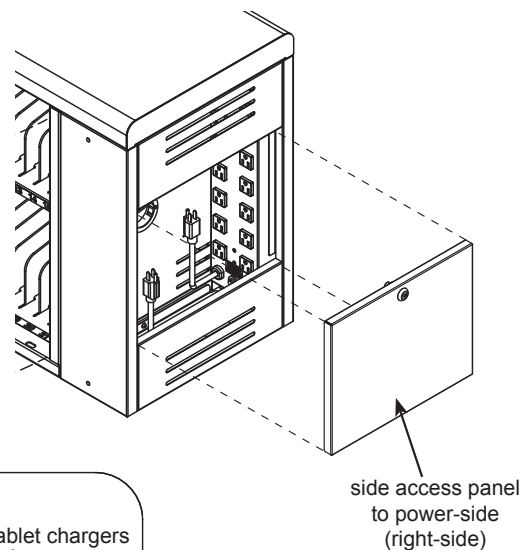

Figure 2A
1. To gain access to the power-side, unlock & remove the side panel. **Figure 2A.**